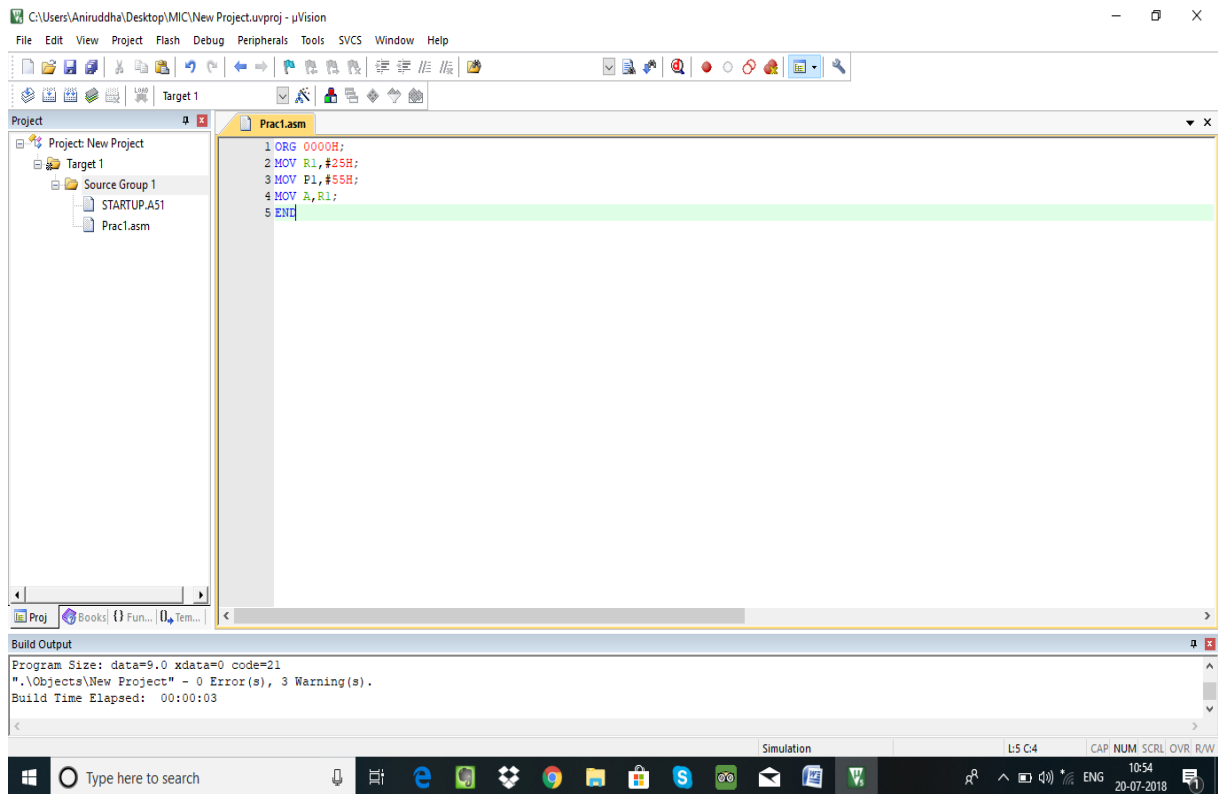

Figure.14
1. Type assembly language program. End with END directive. Save the file periodically. Fig 14